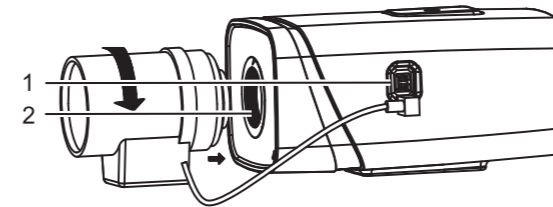

Figure 3 Attaching the lens
1. Attach the lens to the camera, as shown in Figure 3.
2. Insert the lens cable plug into the auto aperture lens connector (1) on the camera side panel.